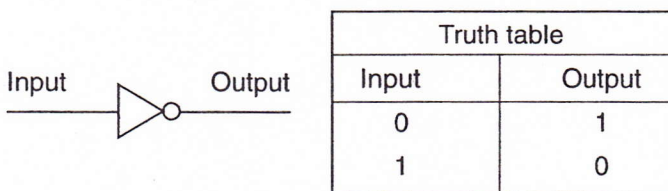

FIGURE 15-27 NOT gate symbol and truth table. The NOT gate inverts the input signal.
- 1. NOT gate:** A NOT gate simply reverses binary 1s and 0s and vice versa (Figure 15-27). A high input results in a low output, and a low input results in a high output.